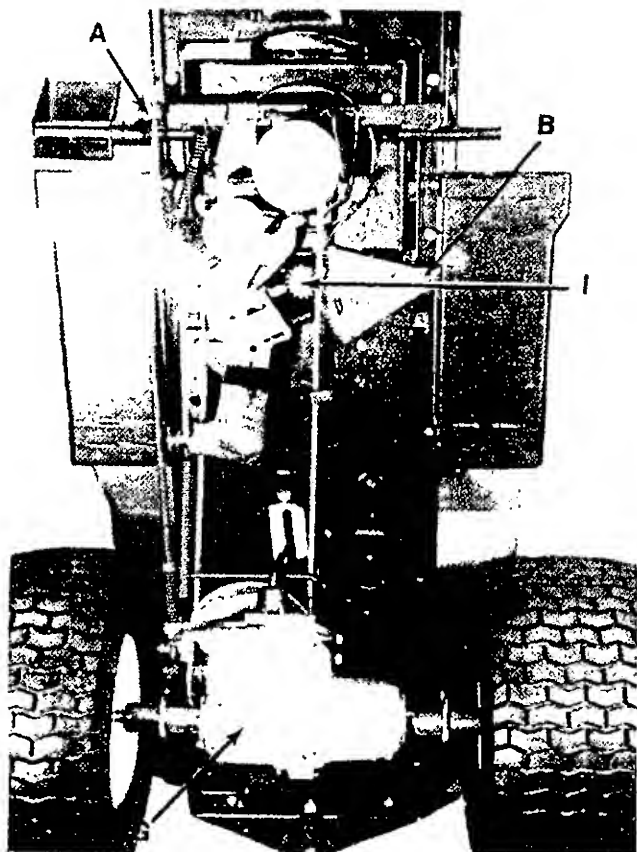

FIGURE 17.
- (E) Oil the throttle control cable
- (F) Oil the mower deck wheels
- (G) Transmission (See maintenance section)
- (H) Engine crankcase (See maintenance section)
- (I) Grease the steering gear (Caution: Keep grease off belts) See figure 17.